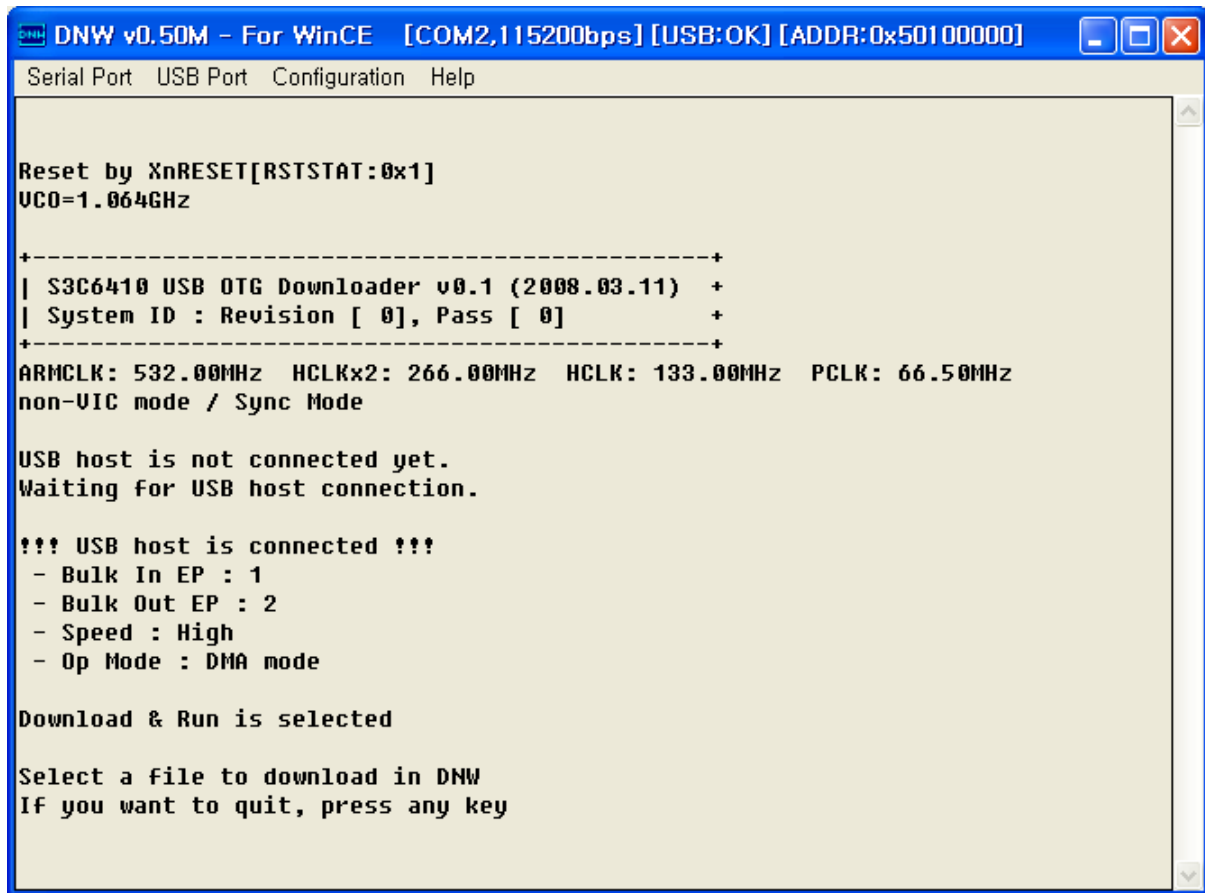

Figure 5-3 DNW Window after Board Power ON
6. On the Serial Port menu, click Connect. Switch ON the board and then press any key. The DNW window appears as shown in figure 5-3.